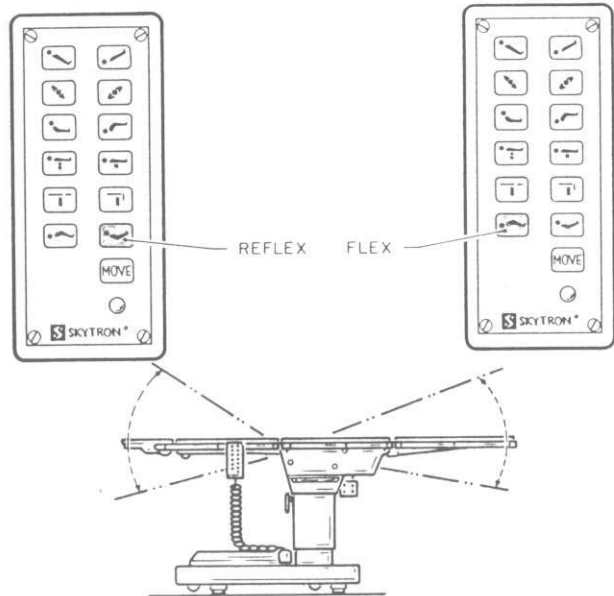

Figure 2-11. Flex/Reflex Positioning
g. Flex Posturing. To place the table top in a flex position from horizontal, push the FLEX button (figure 2-11). To return the table top to a horizontal position or into a reflex position, push the REFLEX button. Make sure the kidney lift, if applicable, is down before moving REFLEX above horizontal.